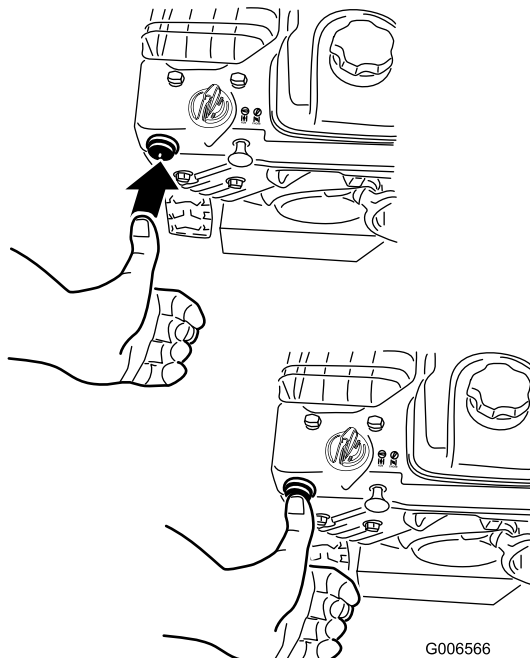

Figure 20
4. Firmly push in the primer with your thumb 2 times (15°F or -9°C or above) or 4 times (below 15°F or -9°C), holding the primer in for a second before releasing it each time (Figure 20).